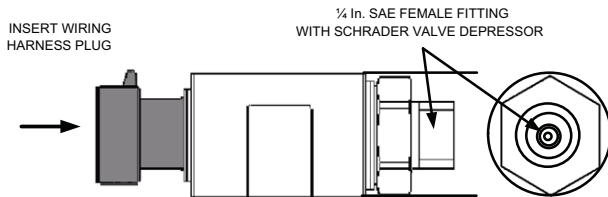

FIGURE 2 - PRESSURE TRANSDUCER
4. Attach the pressure transducers to the connection tee (provided in accessory). The pressure transducer has a 1/4 In. SAE female flare with Schrader valve depressor for mounting to the tee. See Figure 2.